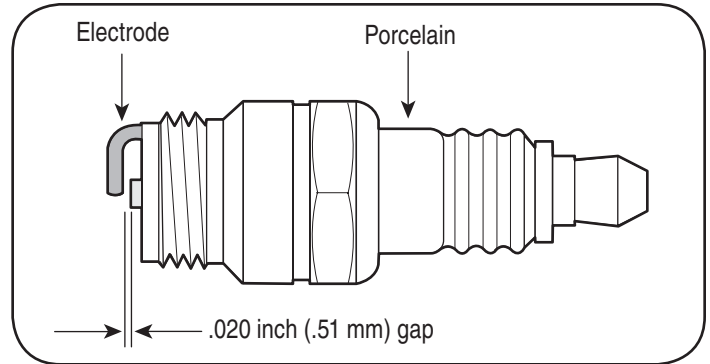

Figure 14
- Remove and inspect the spark plug. Check gap to make sure it is set at .020". See Figure 14.